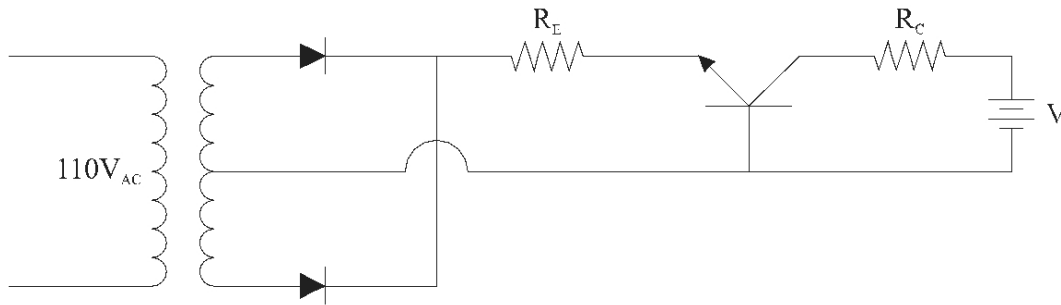

Figure 7-5-2. Common base BJT configuration.
5. Mount the circuit shown in figure 7.5.2.